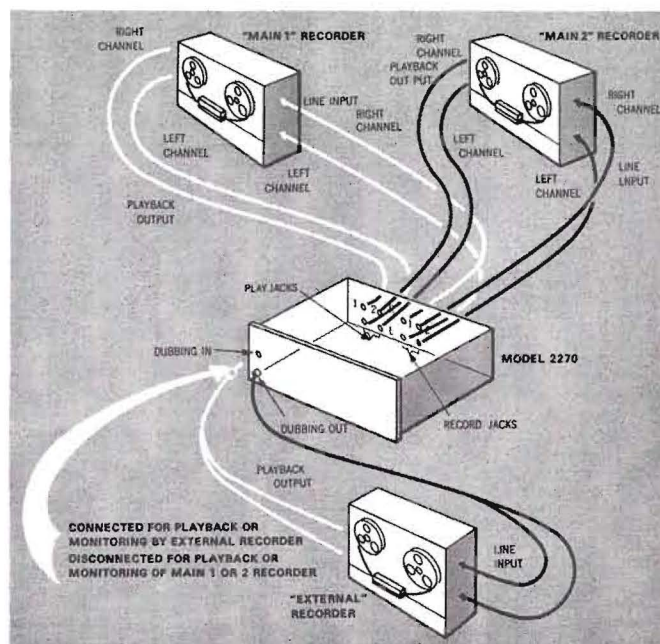

Figure 7. General Arrangement of Tape Recorder
There are several ways to connect and operate tape recorders with your receiver. To avoid confusion in the following discussion, reference to "tape monitoring" assumes that the recorder is equipped with separate record and playback heads and separate record and playback preamplifiers. To further simplify this discussion, a tape recorder normally connected to the rear panel **PLAY 1** jacks will be referred to as the "main 1" recorders. A separate recorder normally connected to the front panel jacks will be referred to as the "external" recorder. This general arrangement is illustrated in Figure 7.
1. Connect two tape recorders to the **RECORD 1** and **2** jacks as shown in Fig. 7. To monitor the "main 1" recorder, depress both the **MONITOR (TAPE/SOURCE)** and **1/2** pushswitches and to monitor the "main 2" recorder, release the **MONITOR (1/2)** pushswitch only.
With two tape recorders connected to the Model 2270 as shown in Figure 7, a continuous recording can be made without losing parts of the program during reel changes. For example, with
the selector switch set to the desired program source, and the **MONITOR (TAPE/SOURCE)** pushswitch in the "out" position, start the recording on the main 1 recorder, then prepare the main 2 recorder to begin recording before the main 1 recorder is about to run out of tape. As soon as the main 2 recorder is started, ample time will be available to reload the main 1 recorder in preparation for further recording. This process can be repeated indefinitely with both machines. At any time during the recording session, the recording can be monitored by depressing or releasing the **MONITOR (1/2)** pushswitch with **MONITOR (TAPE/SOURCE)** pushswitch depressed. Using the input/output and control facilities of the Model 2270, and two tape recorders, you can copy and edit tapes from one machine to the other. The general arrangement of equipment for copying and editing is illustrated in Figure 7.